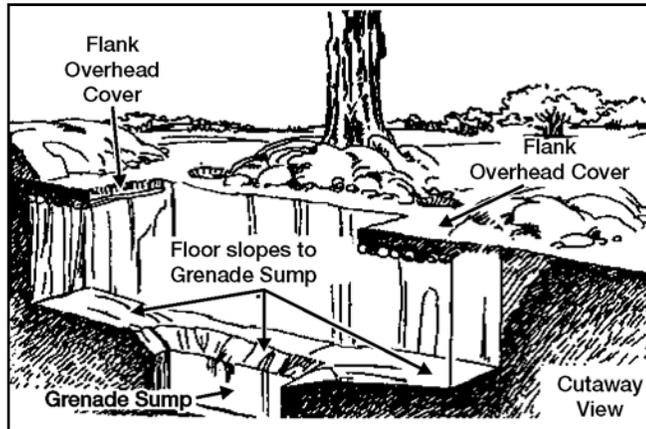

Figure 071-326-5703-8. Flank overhead cover
6. Construct flank overhead cover when frontal overhead cover would significantly increase the silhouette of the position, making it vulnerable to detection (figure 071-326-5703-8).